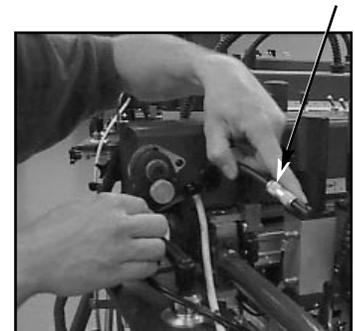

Fig. 6
5. Pull the head carriage all the way towards the front of the head and disconnect the 3/8" air line located on the front of the head (Tol-O-Matic Cylinder Fitting). Use a brass fitting union with plug, to plug the 3/8" air line (M&R Part #2003060-fitting union and Part # 2003042-plug). After doing this, unplug the air line located on the back of the head (Tol-O-Matic Brass Cylinder Fitting). Use a brass fitting union with plug, to plug the air line. This will allow you to move the head carriage back and forth by hand without resistance. (See Fig 6)